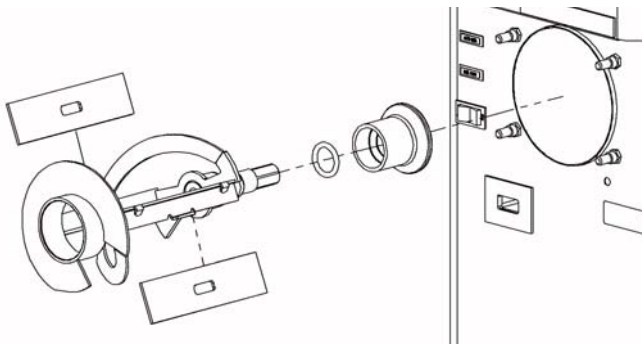

Figure 3-9 Auger Assembly
- E. Push auger into freezing cylinder and rotate slowly until auger engages the drive shaft (Refer to Figure 3-9)